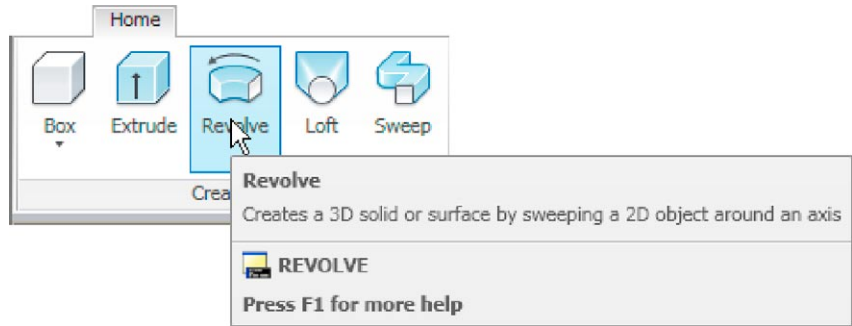

Fig. 12.18 The **Revolve** tool from the **Home/Create** panel
4. Call the **Revolve** tool from the **Home/Create** panel (Fig. 12.18).